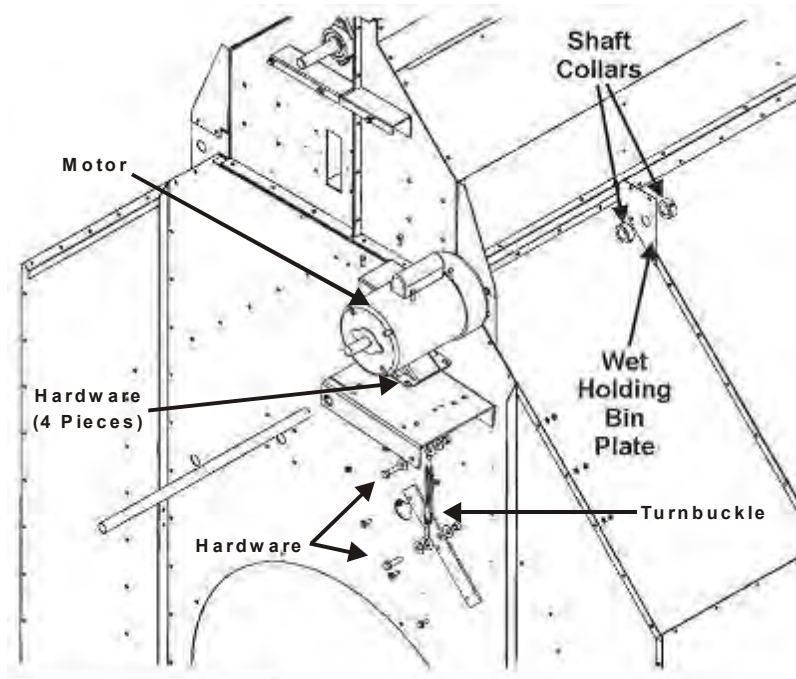

Fig. 2-19 - Motor mount components
3. Slide shaft collars on each side of wet holding bin plate. See Fig. 2-19.
5. Bolt turnbuckle plate to side of dryer. See Fig. 2-19.
6. Bolt turnbuckle between motor mount and turnbuckle plate using 1/2 x 1-3/4" bolts, 1/2" flat washers and 1/2" lock nuts. See Fig. 2-19.
7. Bolt motor to motor mount using 5/16 x 1" bolts and 5/16" nuts and washers. See Fig. 2-19.